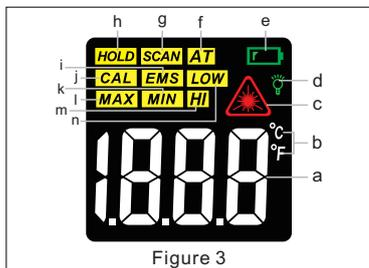

Figure 3
**1. LCD: as shown in Figure 3.**